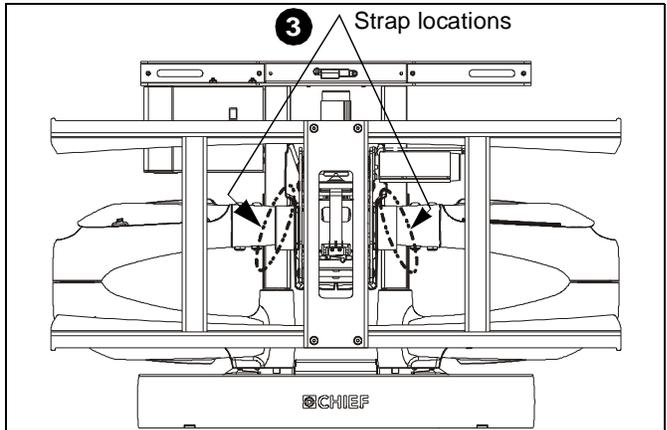

Figure 18
3. Remove two orange hook and loop straps holding PXR arms in place. (See Figure 18)